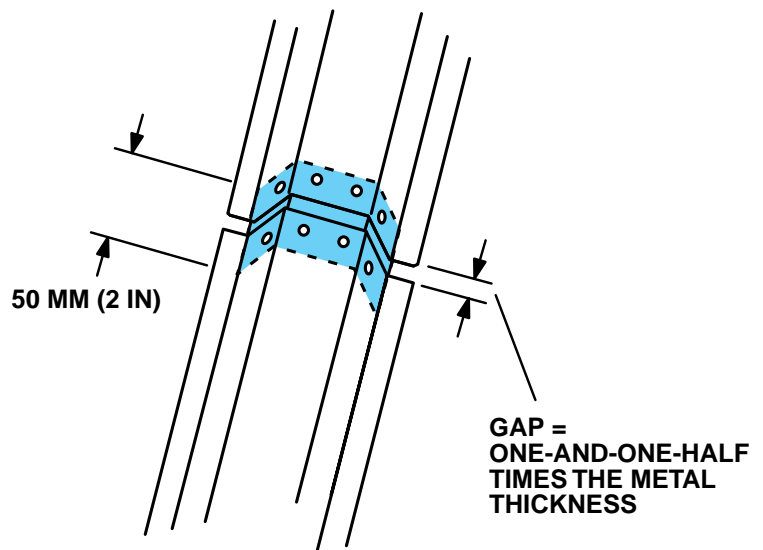

Fig. 1-6 — Create Pillar Backing Plate
1. On the service part, at center pillar mark a horizontal line in corresponding locations to original sectioning cut. Leave a gap of one-and-one-half times the thickness of the metal at the sectioning joint (Fig. 1-6).
5. Cut one 50 mm (2 in) backing plate for pillar (Fig. 1-6). Remove the flange on each side of the backing plates so that they will fit behind the sectioning joint.